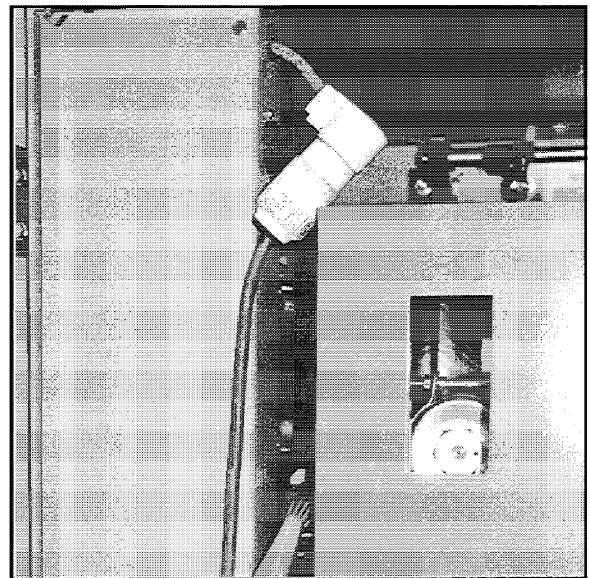

Fig. 45 Using Test Power Source
- ☐ With incoming power isolated and all loads disconnected electrically, the control circuit and other mechanisms should be exercised to determine that the devices operate properly. An auxiliary source of control power will be necessary to provide power to the electrical operators (Fig. 45).